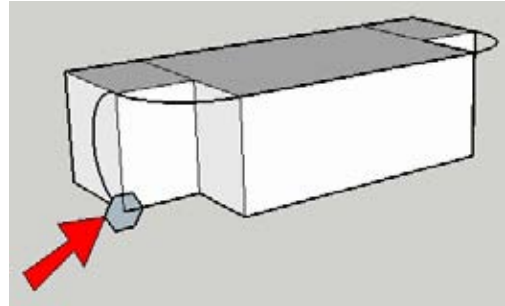

Figure 2-89
9. The reference geometry is needed for one more step: drawing the vertical Follow Me face at one end of the path. The face shown in Figure 2-89 is a hexagon, but you could draw a circle or rectangle. You could also draw this face without the reference group, but it's easier to draw geometry against an existing face than to draw it in empty space.